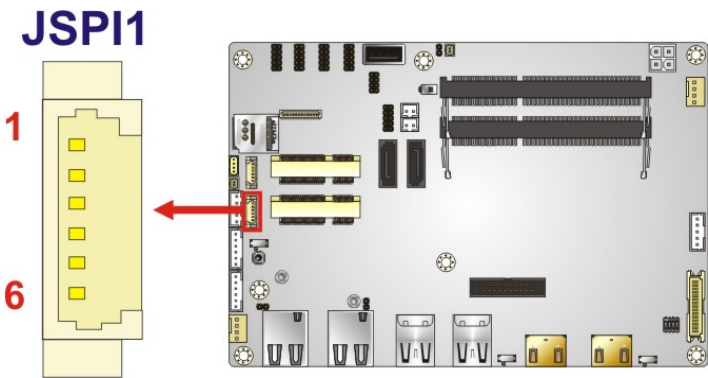

Figure 3-25: SPI Flash Connector Location
- CN Location: See Figure 3-25